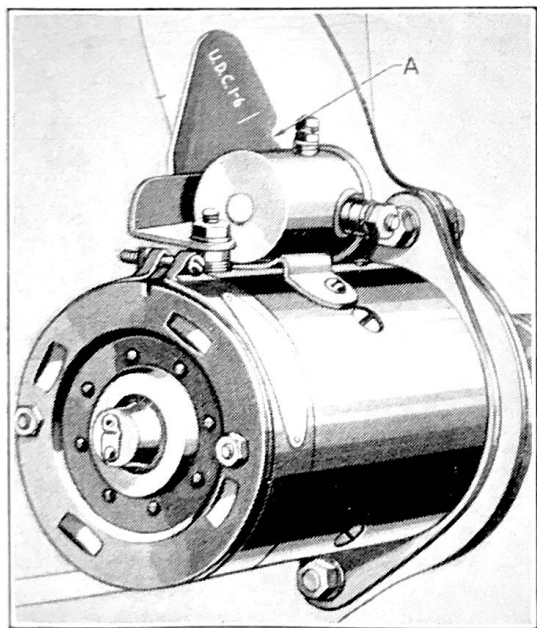

Figure 20
moving the spark plug from No. 1 (front) cylinder, placing a finger over the spark plug hole and cranking the engine by pressing the small button on the rear end of the starting motor solenoid in quick successive movements. When air pressure against the finger indicates that the piston is coming up on the compression stroke, continue cranking the engine slowly until the breaker points just begin to open as the pointer on the face of the rear engine support lines up with a position $\frac{1}{2}$ inch ahead of the U.D.C. 1-6 / mark on the flywheel, as illustrated in Fig. 20.
rear engine support plate $\frac{1}{2}$ inch ahead of the U.D.C. 1-6 / mark on the flywheel, Fig. 20, rotate the distributor body clockwise slowly just until a spark jumps from the high tension wire to the cylinder head. Tighten screw (G), replace central cable in distributor head and clamp cap on distributor.